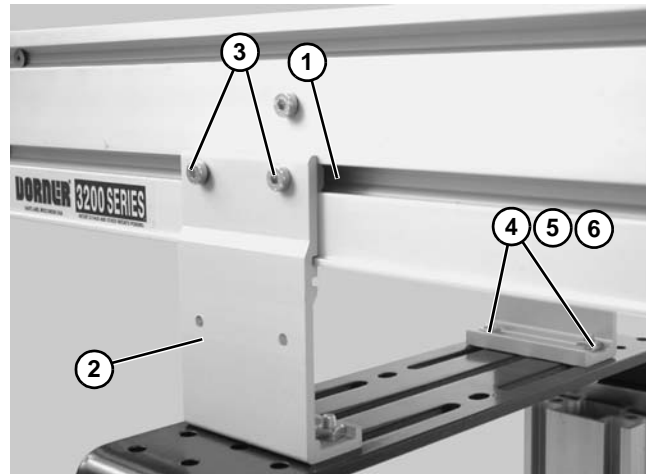

Figure 11
3. Insert T-bars (**Figure 10, item 5**) into conveyor side slots (**Figure 11, item 1**). Fasten brackets (**Figure 11, item 2**) to conveyor with mounting screws (**Figure 11, item 3**).
4. Fasten brackets to support stand with mounting screws (**Figure 11, item 4**), washers (**Figure 11, item 5**) and nuts (**Figure 11, item 6**).
5. Tighten screws (**Figure 11, item 3 & 4**) to 60 in-lb (7 Nm).